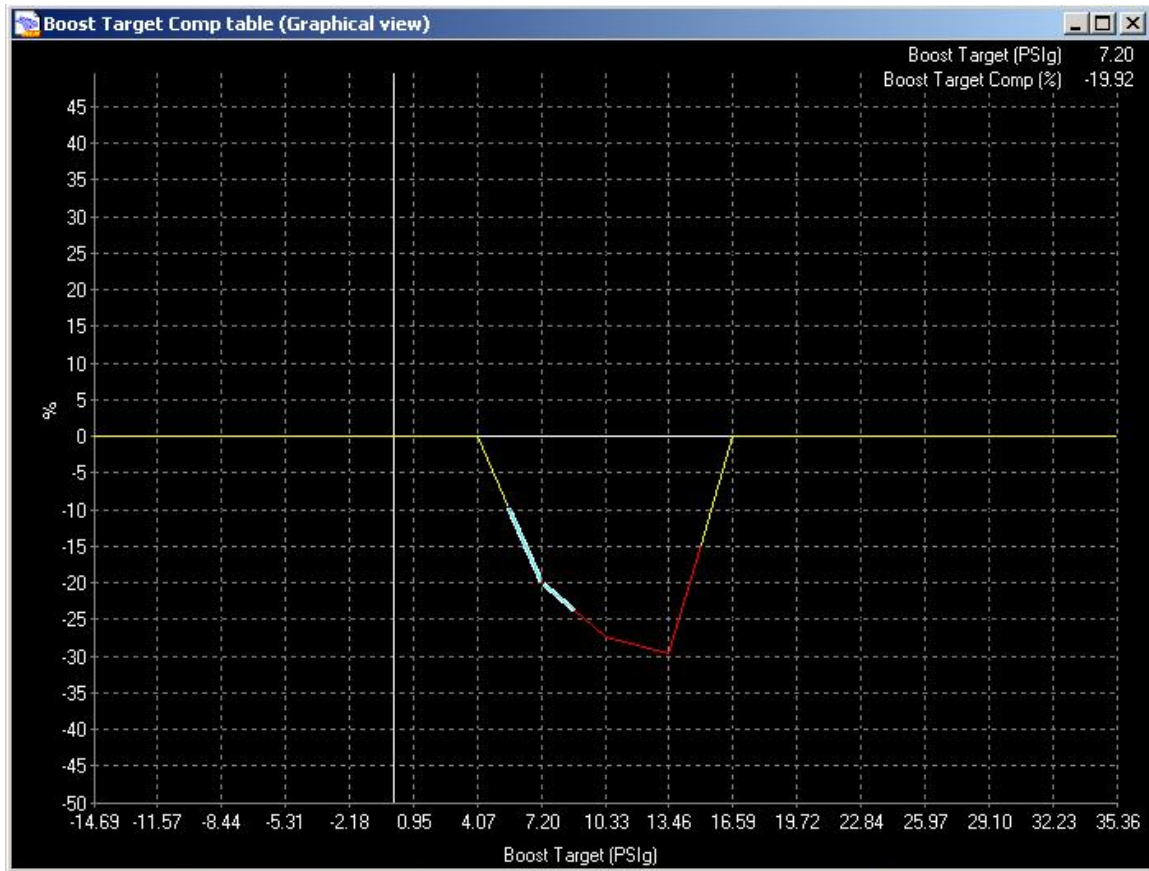

Fig. 5 - Setting the High Boost Target Comp value
14. Move back to the **Boost Target Comp** table (Fig. 5) and set the duty cycle value for that boost value to something low. Intermediate values can be set roughly in-between for now. In this example, the value for 13.46 PSI is set to -35, and the value for 10.33 is set to roughly 28.